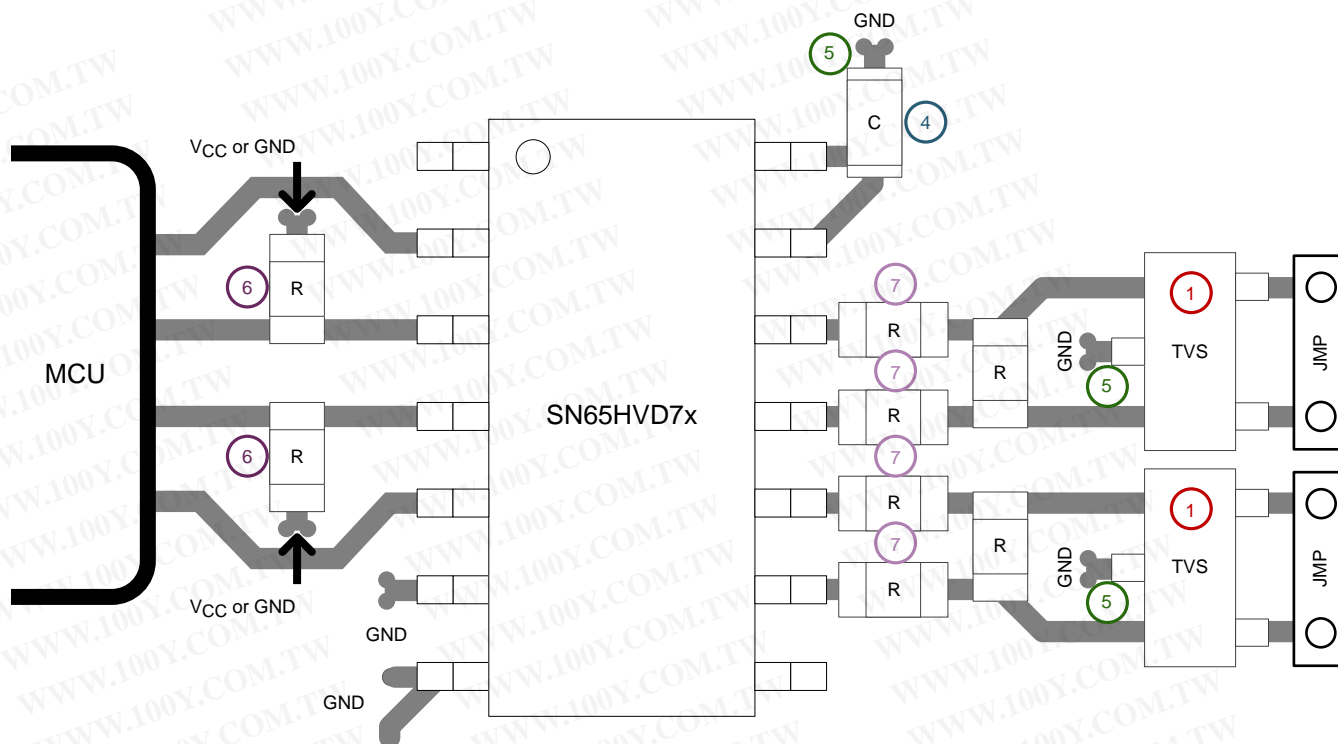

Figure 41. SN65HVD7x Layout Example
For successful PCB design, begin with the design of the protection circuit (see Figure 41).
4. Apply 100-nF to 220-nF bypass capacitors as close as possible to the  $V_{CC}$ -pins of transceiver, UART, controller ICs on the board (see Figure 41).
5. Use at least two vias for  $V_{CC}$  and ground connections of bypass capacitors and protection devices to minimize effective via-inductance (see Figure 41).
6. Use 1-k $\Omega$  to 10-k $\Omega$  pullup and pulldown resistors for enable lines to limit noise currents in these lines during transient events (see Figure 41).
7. Insert pulse-proof resistors into the A and B bus lines if the TVS clamping voltage is higher than the specified maximum voltage of the transceiver bus pins. These resistors limit the residual clamping current into the transceiver and prevent it from latching up (see Figure 41).